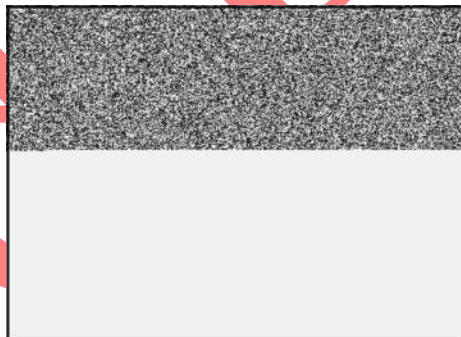

Figure 14
2. Install screws (**D**, Figure 14) and spacer (**E**), then install tank from engine. Torque screws to values listed in Section 12 - Engine Specifications.